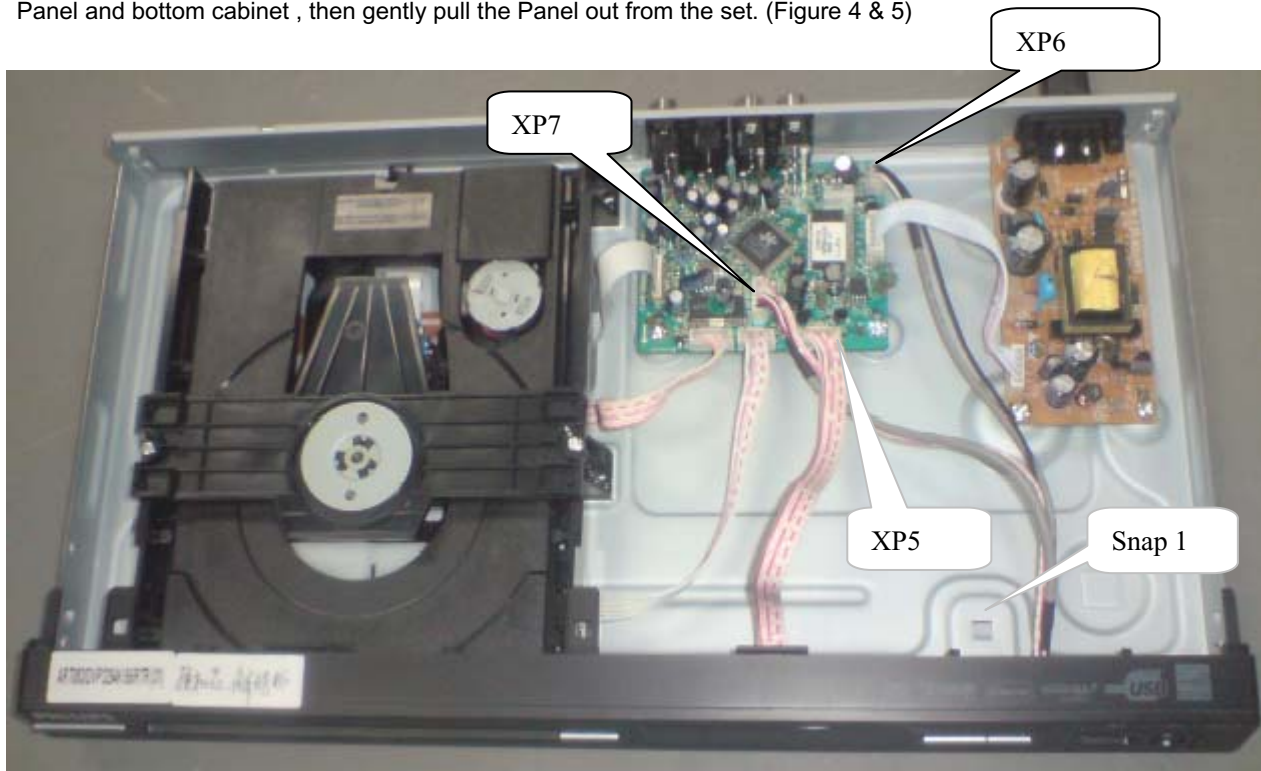

Figure 4
Step4: Dismantling Front Panel, disconnect the connectors (XP5, XP6, XP7), then release the snaps on the both sides of Front Panel and bottom cabinet , then gently pull the Panel out from the set. (Figure 4 & 5)